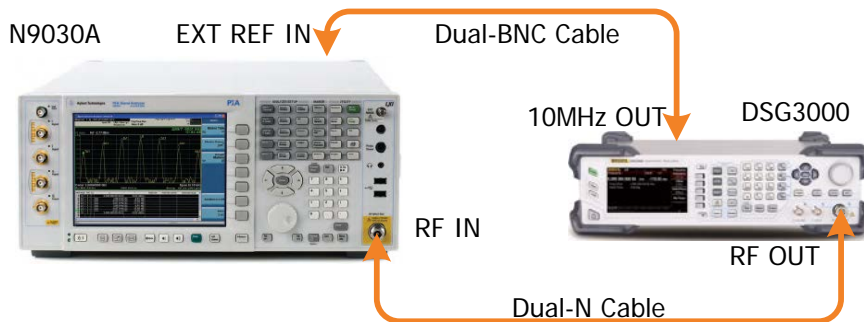

Figure 2-5 AM Internal Modulation Test Connection Diagram
- 1. Synchronize the DSG3000 and signal analyzer. Connect the RF output terminal of the DSG3000 with the RF input terminal of the signal analyzer as shown in Figure 2-5.